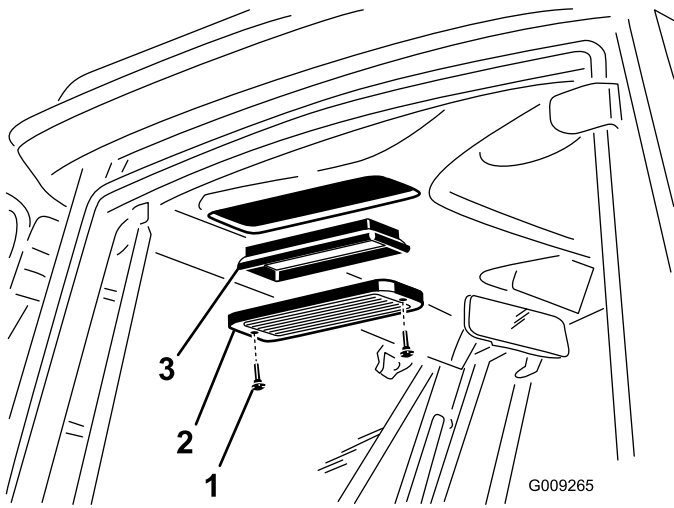

Figure 103
1. Remove the thumb screws and grates from over both the in-cab and rear cab air filters (Figure 103).